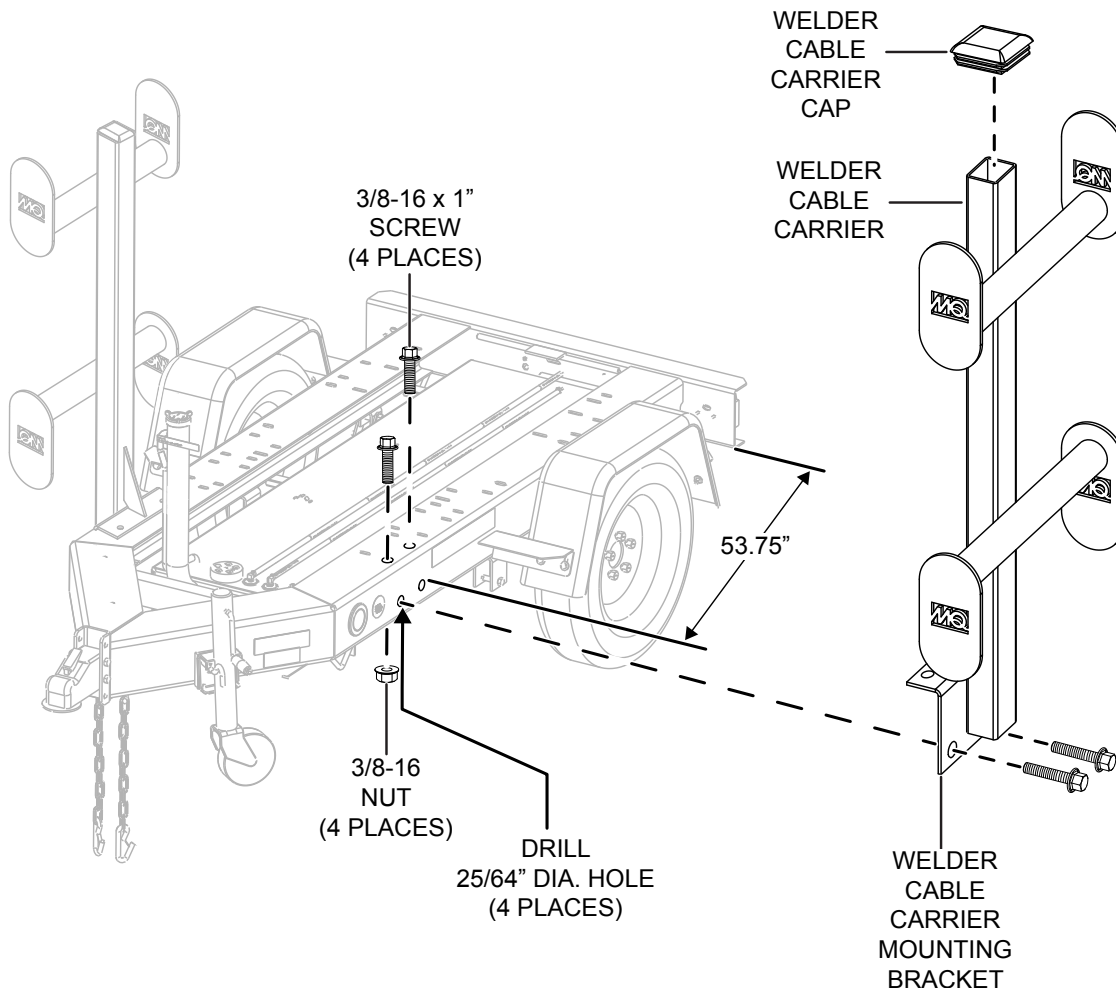

Figure 2. Welder Cable Carrier Installation
1. Using a 9/16" socket and open ended wrench, secure the welder cable carrier to the trailer frame (Figure 2) using four 3/8-16 x 1" HHFS screws and 3/8-16 flanged nuts.
3. Mount and secure the welder cable carrier cap as shown in Figure 2.
1. Using a tape measure, make a mark toward the front of the trailer frame (Figure 2) 53.75 inches from the inside edge of the bumper.
5. Once positioned, mark the screw hole (4) locations as shown in Figure 2.
6. Using a 25/64" drill bit (Figure 2), drill out the four holes.